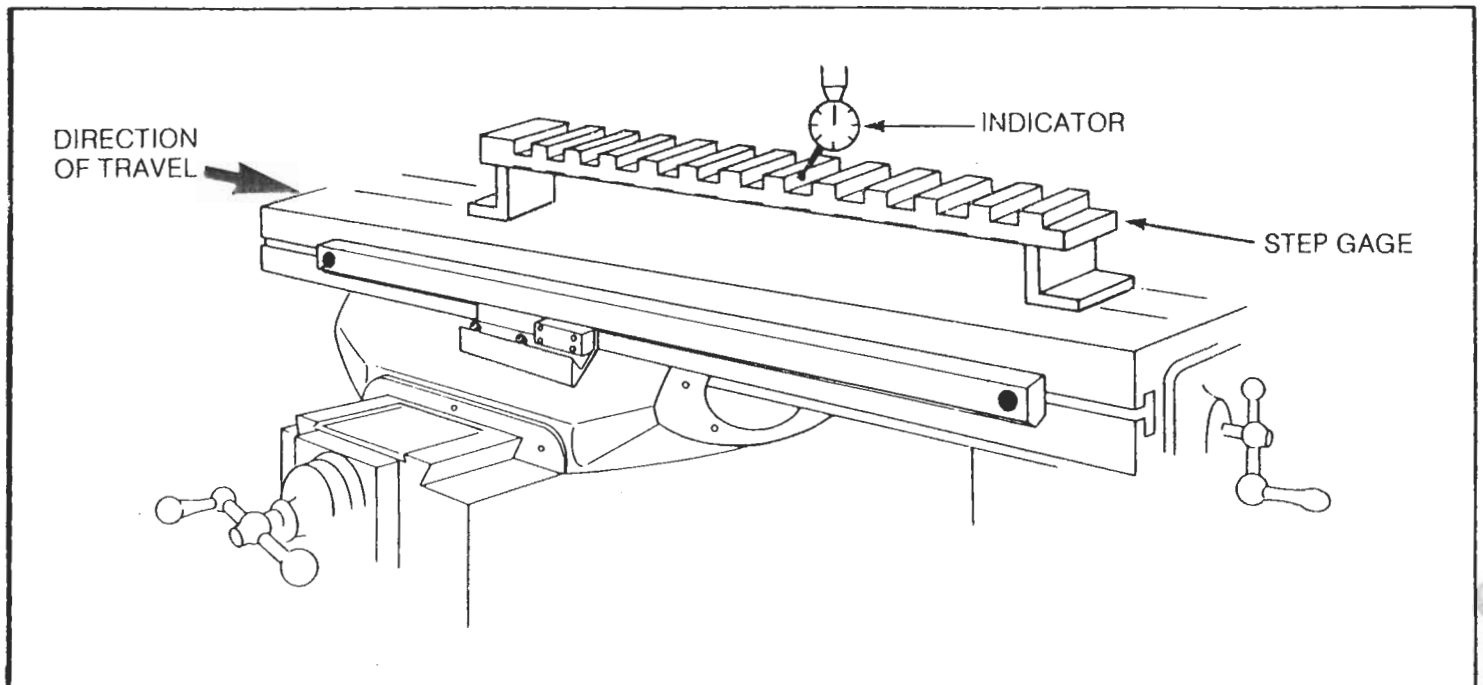

Figure 4-2. Example of Measurement Set-up Using Step Gage as a Standard to Measure Abbe Error
- Insert a dial indicator into the spindle and lower it until the indicator can contact the first reference surface of the gage. (See Figure 4-2)